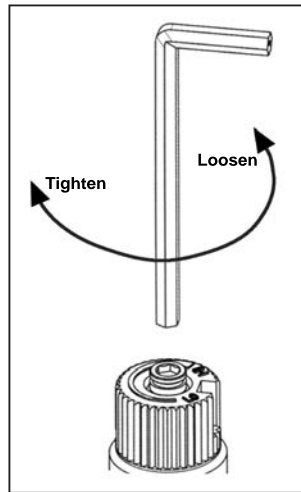

Figure 11: Removing valve screw.
- d) Insert a 5/32" or 4 mm Allen wrench into the hexagonal key-way of the screw (see Figure 11), rotate it counter-clockwise until it is free and extract it.
- f) Using the Allen wrench as shown in Figure 11, rotate the screw clockwise. **WARNING!** Do not over tighten the screw.